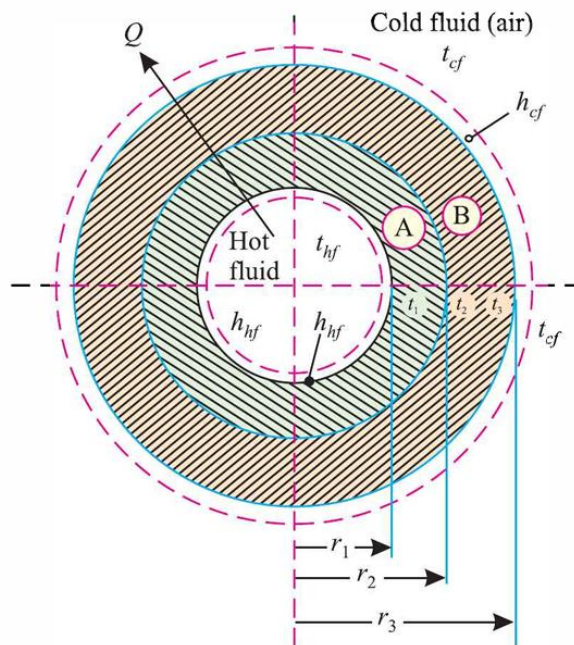

Fig. 2.47.
Consider flow of heat through a composite cylinder as shown in Fig. 2.47.
- t_1, t_2, t_3 = Temperatures at the points 1, 2, and 3 (see Fig. 2.47)